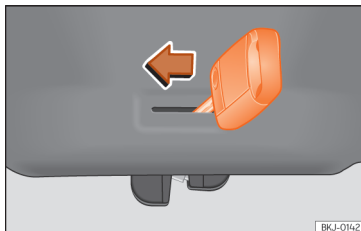

Fig. 94 Detail of the luggage compartment: emergency unlocking
- Insert the key blade into the slot and move the key in the direction of the arrow until the lock unlocks »» **Fig. 94**.